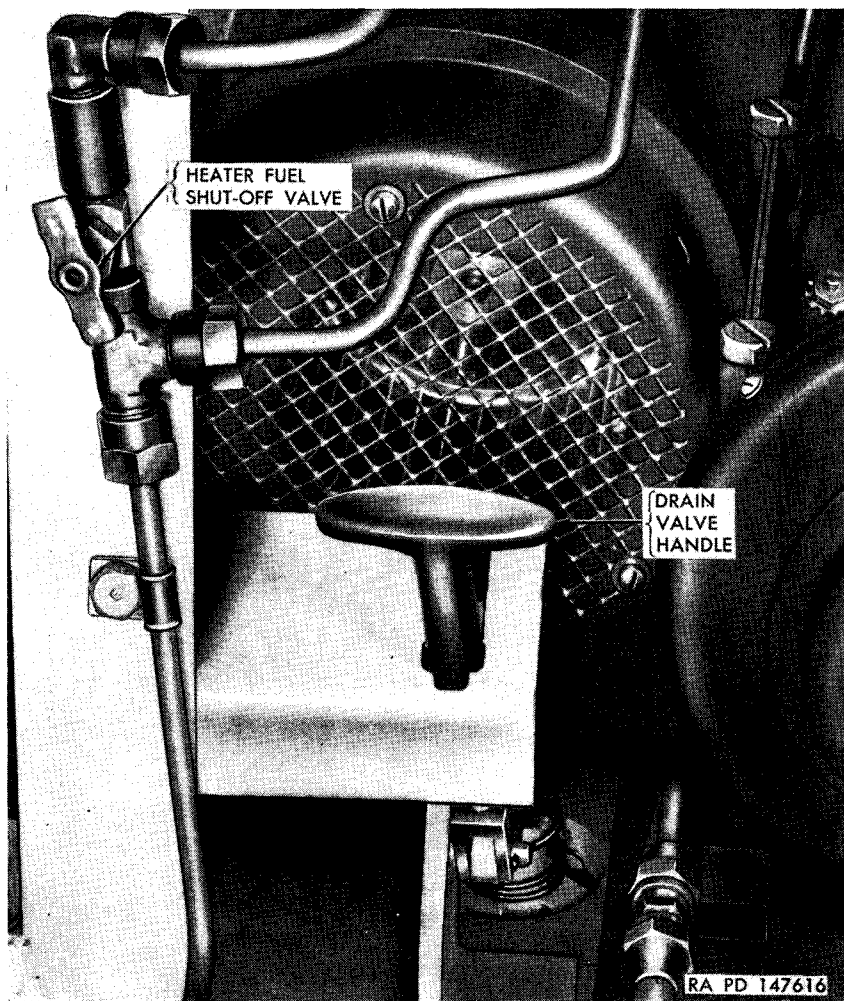

Figure 16. Drain valve handle—crew compartment.
b. CREW COMPARTMENT DRAIN VALVE. The handle for the crew compartment drain valve is located below the instrument panel (fig. 16). To open the valve, pull the handle up and back. To close the valve, push the handle forward.